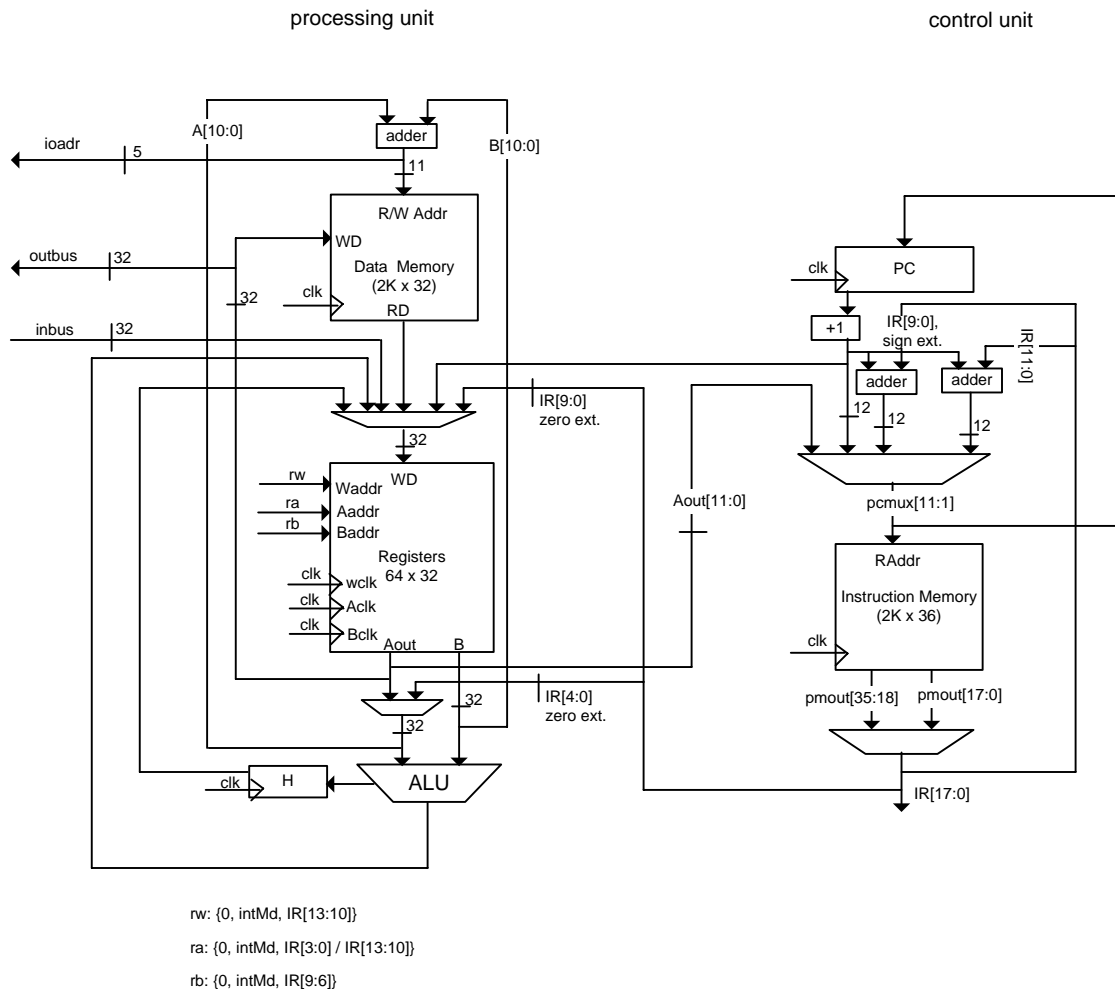

Figure 2: TRM Block Diagram
Figure 2 is a block diagram of the TRM. TRM is currently implemented as 2-stage pipelined machine, which is running at 116MHz (frequency of clk clock). At the rising edge of the clk clock, two instructions (36 bit pmout) are fetched from the instruction memory. Then the instruction (IR) under execution is selected from *pmout* based on bit 0 of *PC*.